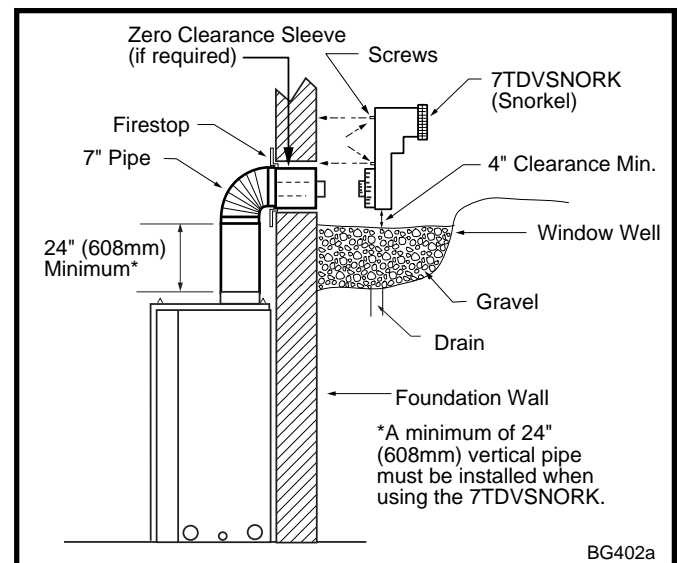

Fig. 33 Below grade installation.
2. Remove soil to a depth of approximately 16" (406mm) below base of snorkel. Install drain pipe. Install window well (not supplied). Refill hole with 12" (305mm) of coarse gravel leaving a clearance of approximately 4" (102mm) below snorkel. (Fig. 33)
7. Level the soil so as to maintain a 4" (102mm) clearance below snorkel. (Fig. 33)